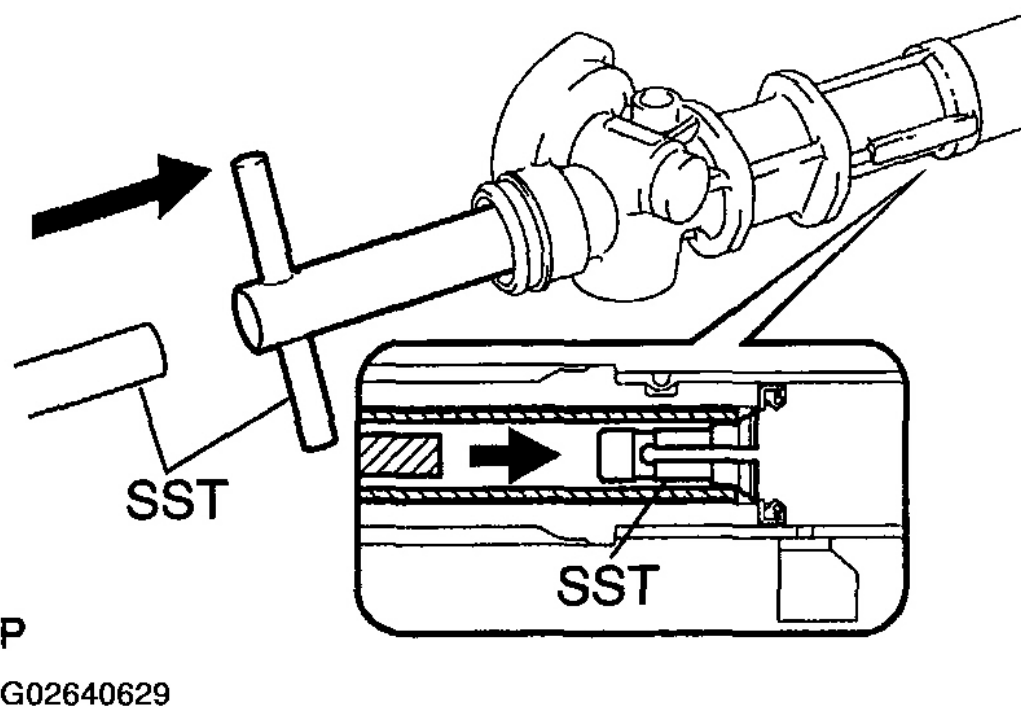

Fig. 93: Inserting SST Into Housing
- b. Install SST (09612-07130) on SST (09612-07210). See **Fig. 93**.